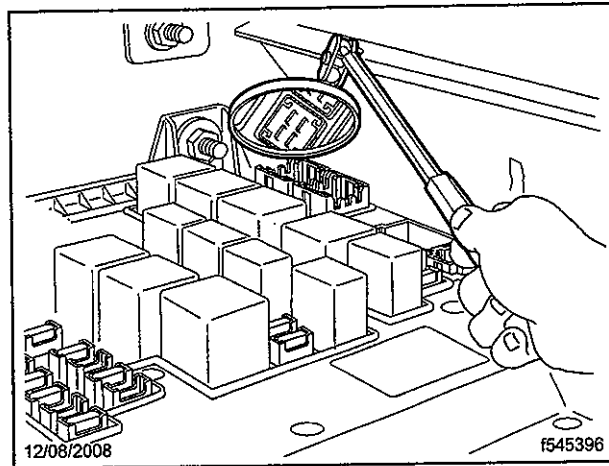

Fig. 2, Corrosion Inspection
8. Disconnect the four large, multi-pin connectors from the right side of the SAM Cab. Using an inspection mirror, check for extensive corrosion or evidence of excessive moisture in the connection insertion points on the SAM Cab. See Fig. 2. Check all the connections in the SAM Cab for extensive corrosion or evidence of moisture (whitish deposits). If extensive corrosion is found, or the module is not functioning correctly, replace the SAM Cab, following the instructions in step 9, below. To determine if the SAM Cab is functioning correctly, refer to section G02.04 in the *Cascadia Troubleshooting Manual*.